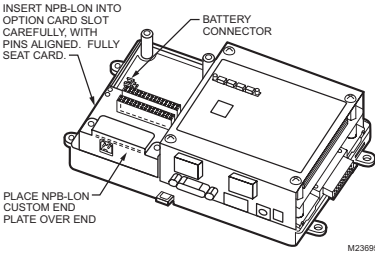

Fig. 3. NPB-LON Inserted, End Plate on Top.
6. Place the custom end plate that came with the NPB_LON over its connector (See Fig. 3).
7. Plug the battery cable into the battery connector on the controller (See Fig 3. for location).